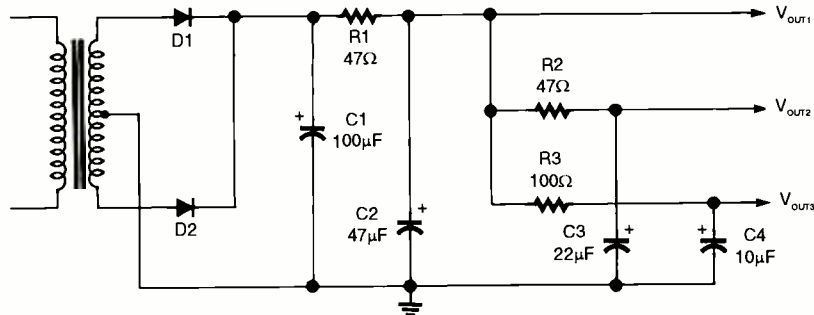

Fig. 2. Operating as a low-pass filter. RC networks are commonly used for power supply decoupling and filtering in audio amplifiers and test instruments.
(1) Actually, if you look at the output of a 3-phase rectifier, you'll find that it is a healthy combination of both direct current and ripple. In fact, its output without filtering is much like the output of the more commonly known full-wave power supply with poor filtering. The three-phase rectifier is more common than you might think, because you'll find one in most automotive alternators.
(2) Yes, that's exactly what a filter capacitor does when looking at it from a charge/discharge perspective. You can also look at it as a low-pass RC filter, especially when it is used for decoupling or in a pi-network filter, as shown in Fig. 2. There, the cut-off frequency of the filter is very low, shunting nearly all the AC to ground and passing all the DC to the load.
(3) Kalle, in my answer, I DID caution the readers that in the real world, you can't just add resistance to reactance to get impedance. Near the end of my answer, it was explained that I was doing that for the illustration just to keep the math simple so that we didn't have to get into an Electronics 101 AC course. In reality, to find the current in the circuit, we would have to take the square root of the sum of the squares of the ESR and the capacitive reactance to get the impedance. This impedance divided into the AC ripple voltage would get us the current, and that current squared times the ESR would give us the power dissipated by the ESR as heat. With 33 microfarads and 10 ohms of ESR with 5 volts rms ripple, the correct impedance would be 41.4 ohms with 146 milliwatts of power dissipated in the ESR. With the impedance erroneously figured as 50.2 ohms, the power dissipated by the ESR would be 99 milliwatts. The idea wasn't to show phase relationships, but just the fact that power is indeed dissipated in ESR and that it can be problem with older capacitors. Sometimes they just open and fade away. Other times, they develop high ESR and burst.
(4) I also disclosed that a perfect capacitor consumes no true power when I said that "any power that is apparently